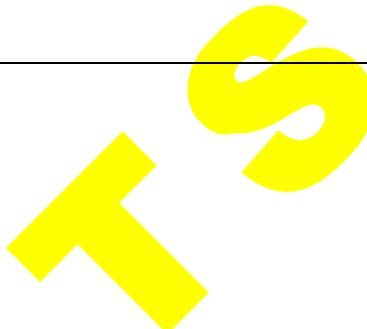

Figure 8-22. Arrow Buttons
1. The **Recipients** list displays the priority of the recipients (the earlier in the list and the lower the number, the higher the priority). The priority ranking on the routing list determines the routing order for issues of the component when they are received. You can use the arrow buttons (Figure 8-22) to the right of the recipient list to move a recipient up or down in priority.